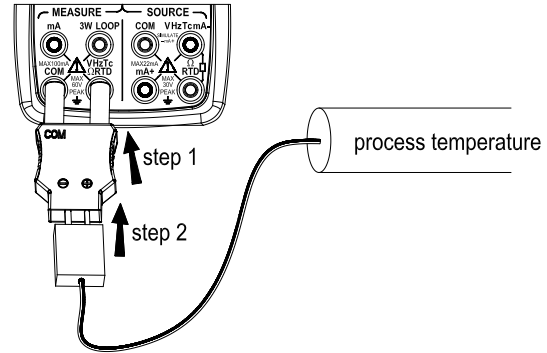

Figure 13 Measuring TC
### For thermocouple signal (Figure 13)
**Step 3:** Connect the thermocouple convertor to the jack under test as shown in Figure 13. The selected function and the measured value and unit shall be shown in the upper part of the LCD.